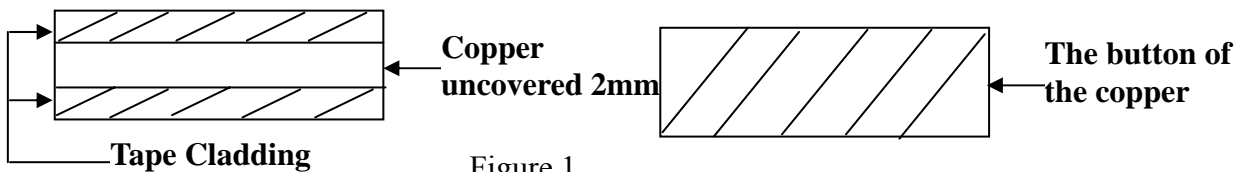

Figure 1
P.S.E: Copper with width 7mm is used and covered as Fig. 1.